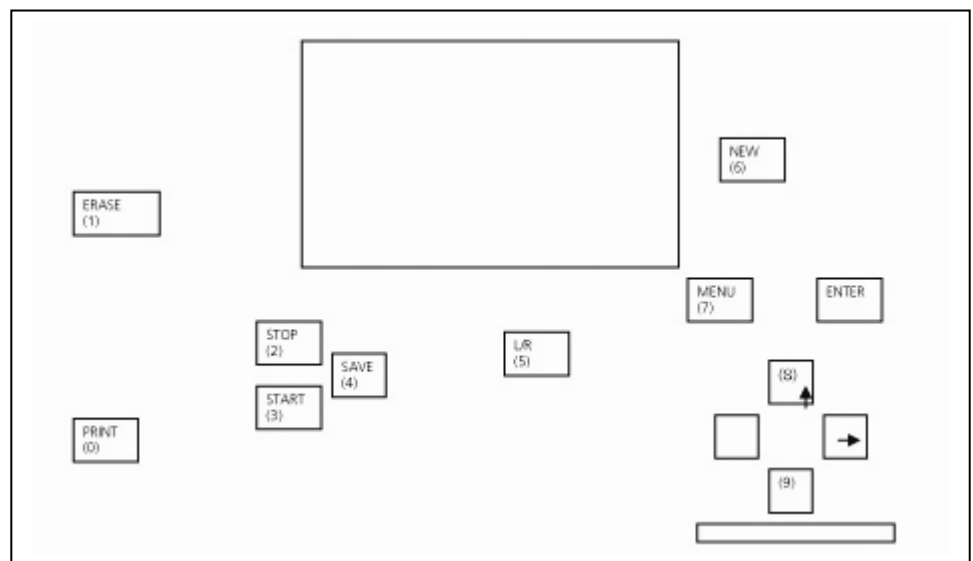

Figure 1
To start a new test, press the **NEW button (16)**. The Detective will display the automatic assigned patient ID number. Press enter to confirm this number and the main test screen will be displayed with a blank audiogram or table ready to start a new test. If you would like to enter a customized ID number, press the **NEW button (16)**, then enter an ID number up to 9 digits using the numbers displayed next to the keys on the front panel of the instrument (Figure 1). Press **ENTER (15)** to confirm and begin the test.
If you would like to enter a customized ID number, press the **NEW button (16)**, then enter an ID number up to 9 digits using the numbers displayed next to the keys on the front panel of the instrument (Figure 1).
A new test can now be started by pressing the **NEW button (16)**, then the **ENTER button (15)** to confirm. A patient ID will automatically be assigned to the patient and can be viewed on the main test screen. If you would like to enter a customized ID number, press the **NEW button (16)**, then enter an ID number up to 9 digits using the numbers displayed next to the keys on the front panel of the instrument (Figure 1).